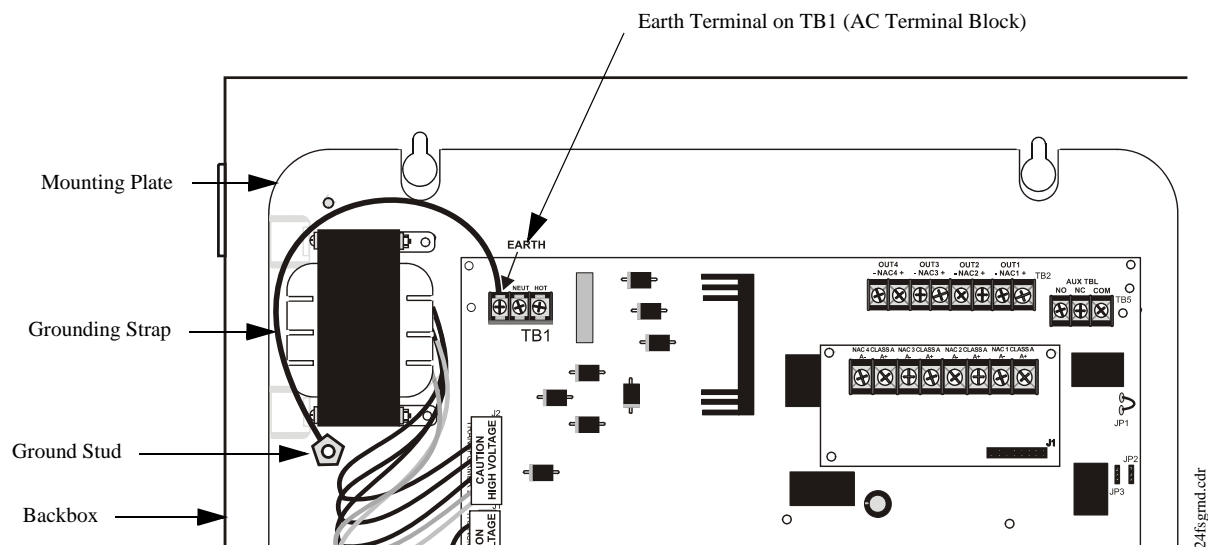

Figure 2.1 Grounding Strap
8. **IMPORTANT!** Make certain to connect the supplied *grounding strap* between the *Earth* terminal on TB1 (AC Terminal Block) of the main circuit board and the *chassis ground stud* as illustrated in Figure 2.1: